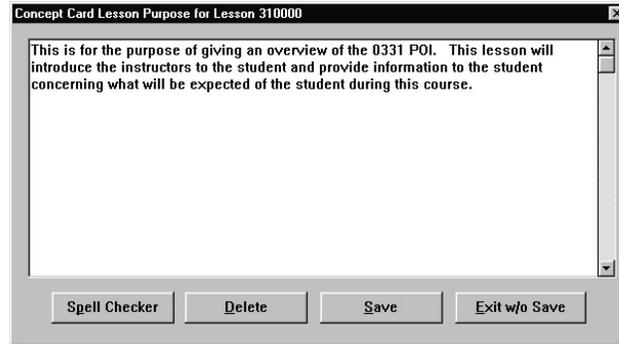

Figure 6-87. Concept Card Lesson Purpose
2. Click on **Lesson Purpose**. The Concept Card Lesson Purpose memo text box (Figure 6-87) opens.